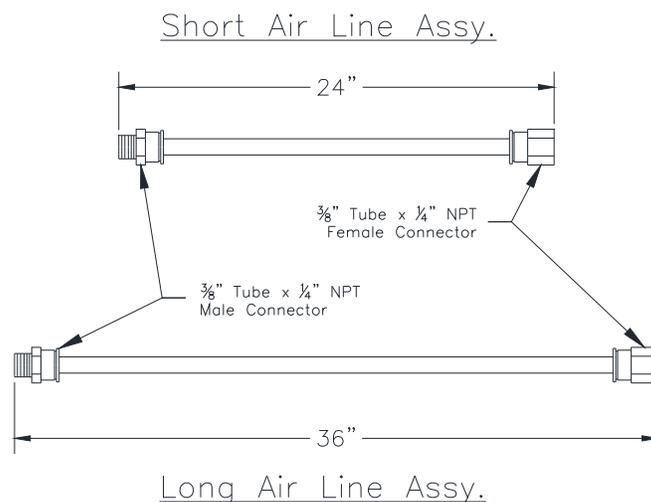

Figure 10
19. Cut (2) lengths of $\frac{3}{8}$ " tubing and attach fittings to ends as shown in **Fig 10**.